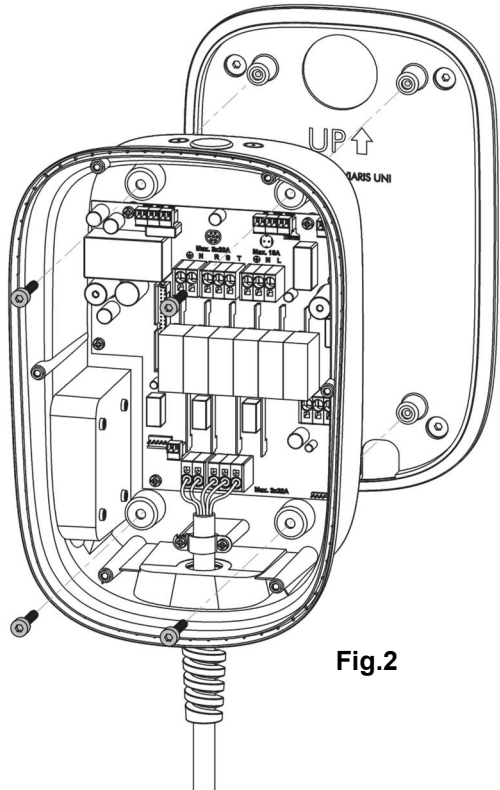

Fig.2
- Attach the charger to mounting using four M6 screws (supplied). **Fig. 2**